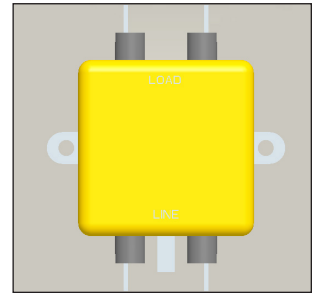

**Figure 42:** VIP
**Figure 42** illustrates a Video Image Processor (VIP). A VIP is an interface that drives video to the display while also dimming, providing gamma and color controls, and displaying test patterns.